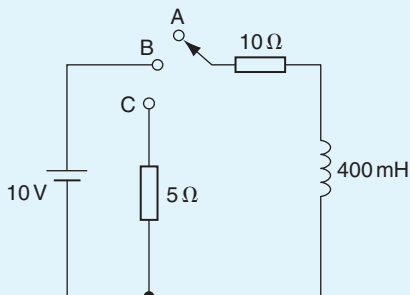

Figure 18.15
6. In the inductive circuit shown in Fig. 18.15, the switch is moved from position A to position B until maximum current is flowing. Calculate (a) the time taken for the voltage across the